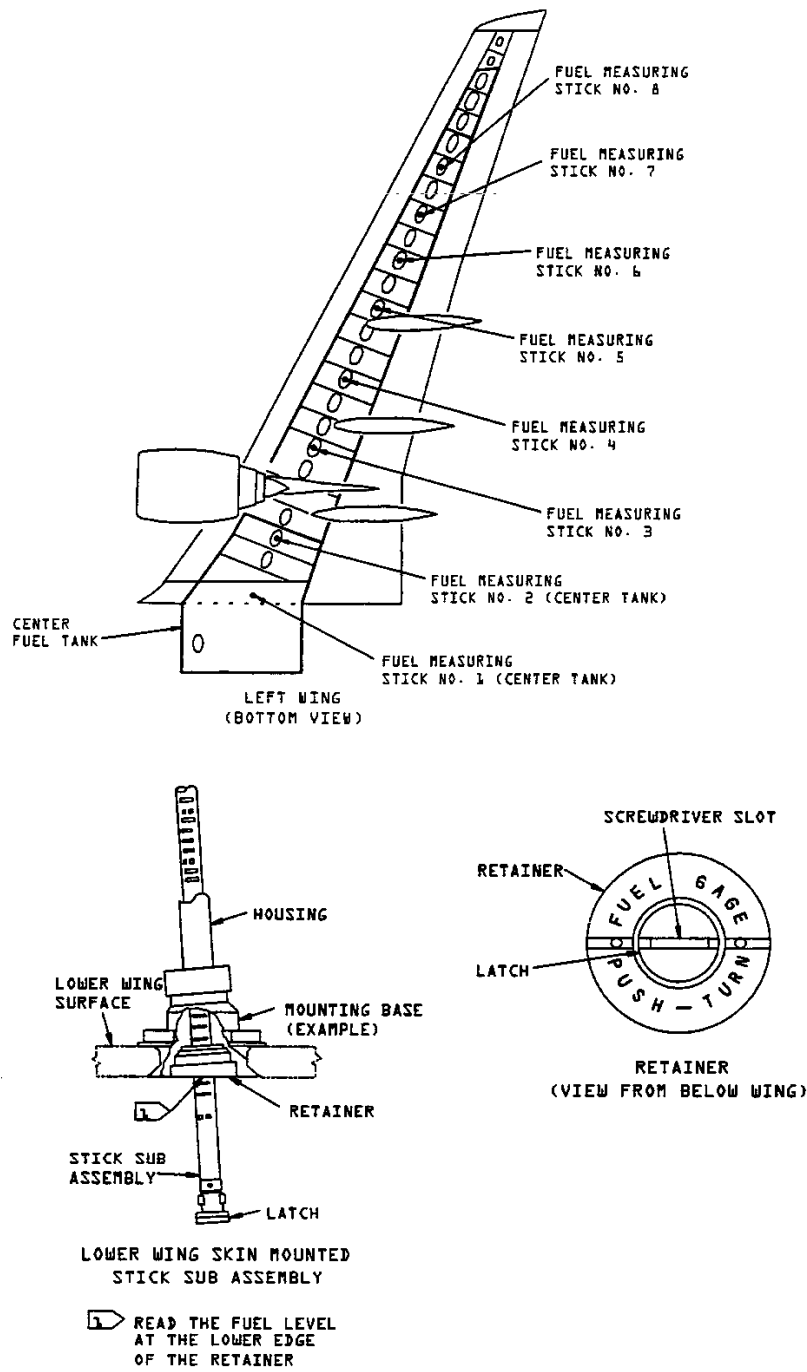

Figure 5-4: B-737-800 Fuel Measuring Stick Assembly
2. The B-737-800 has six measuring sticks in main tank 1 and main tank 2. Each fuel measuring stick is on a fuel tank access door, refer to Figure 5-4: "B-737-800 Fuel Measuring Stick Assembly". There are four fuel tank measuring sticks in the center tank. Two fuel tank measuring sticks are on fuel tank access panels and two are on the wing skin.